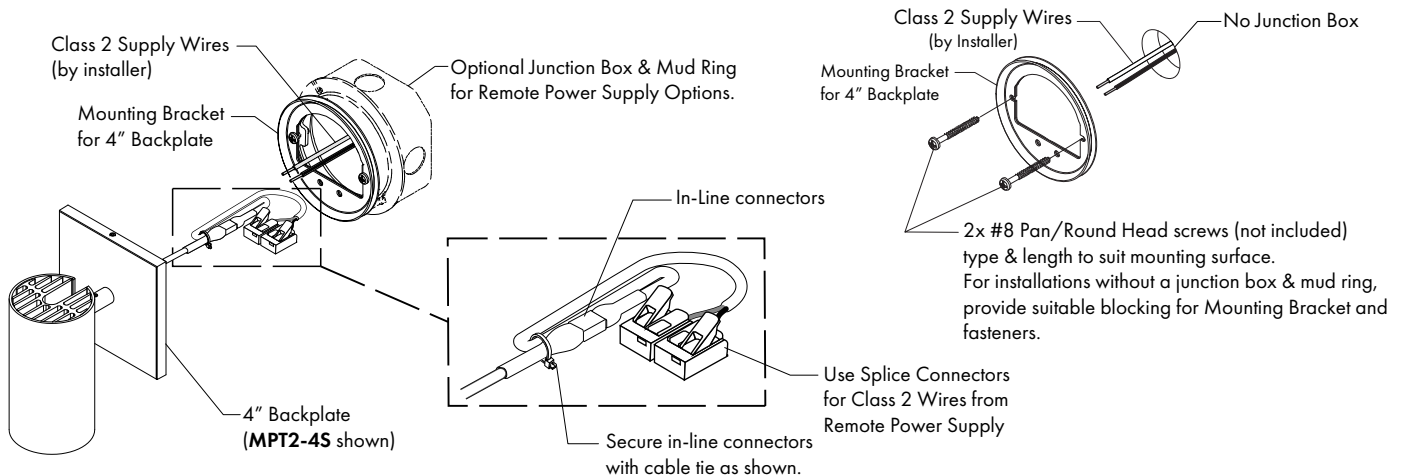

FIG 2.4 Wire & Install Fixture (4" Backplate) - With & Without Junction Box
- STEP 3** For installations without a junction box, drill 3/4" hole at fixture location and pull through blocking or suitable surface, Route Class 2 wiring from remote power supply to fixture location and pull through 3/4" hole - **FIG 2.4**.